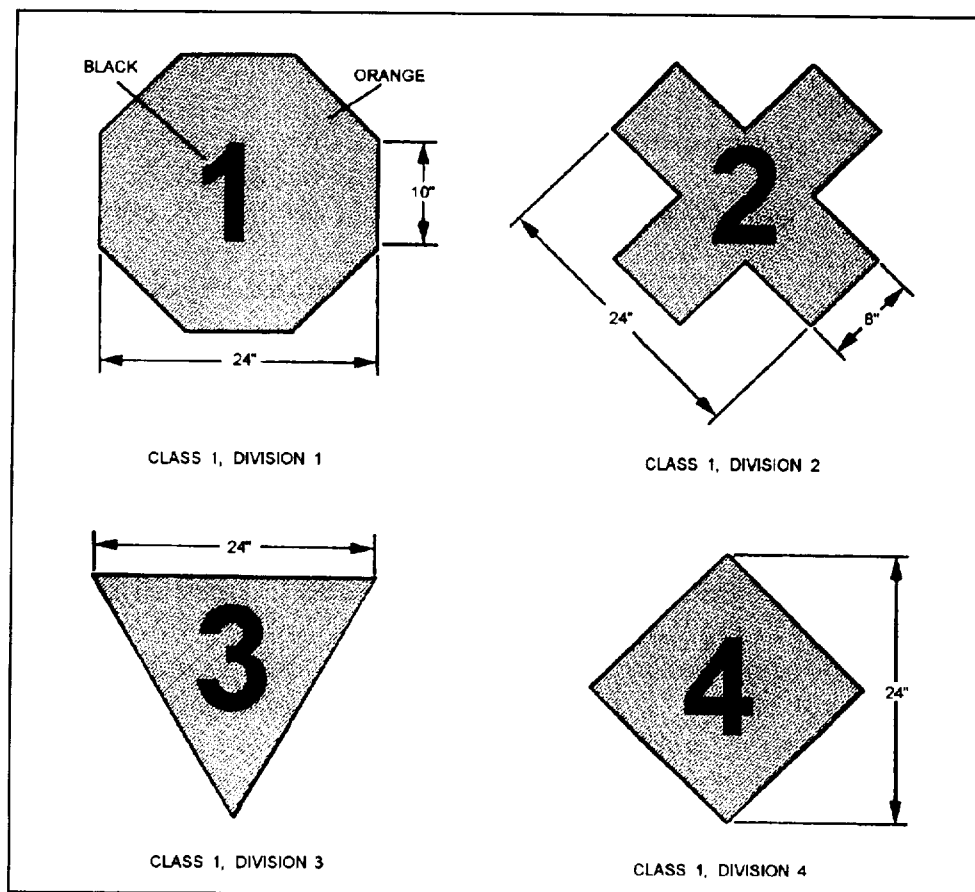

Figure 2-1.—Fire division symbols.
**FIRE SYMBOLS.—** The fire symbols shown in figure 2-1, represent the four class-1 explosives divisions. The hazard decreases as the fire division symbol number increases. These symbols also designate those items that are hazardous to fire-fighting personnel and the burning or explosive characteristics of the stored material. Each of the four symbols has a distinctive shape, is colored orange, and has the class division number shown in the middle of the shape in black. The hazard and fire-fighting precautions for each symbol are summarized in table 4-1 of NAVSEA OP 5, volume 1.